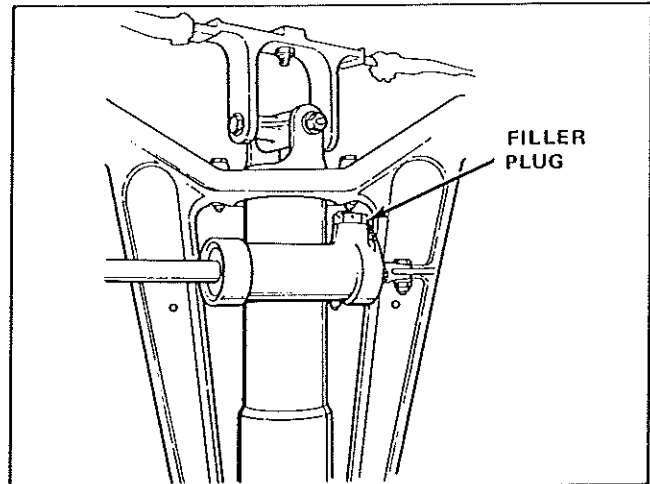

Figure 18 Shimmy Damper—Piston in Rear of Cylinder
1. Use a tow bar and turn the nose wheel strut to the extreme left position against the 55 degree stop. This places the shimmy damper piston to the rear of the cylinder (Figure 18) and eliminates the possibility of entrapped air in the cylinder.
2. Remove filler plug (Figure 18) from the cylinder and fill the cylinder with hydraulic fluid (MIL-H-5606A). Keep filling the cylinder until it overflows. Then you'll know it is full.